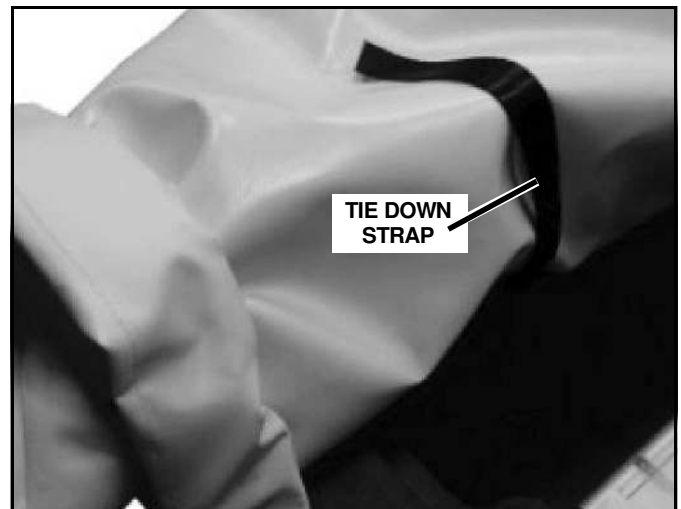
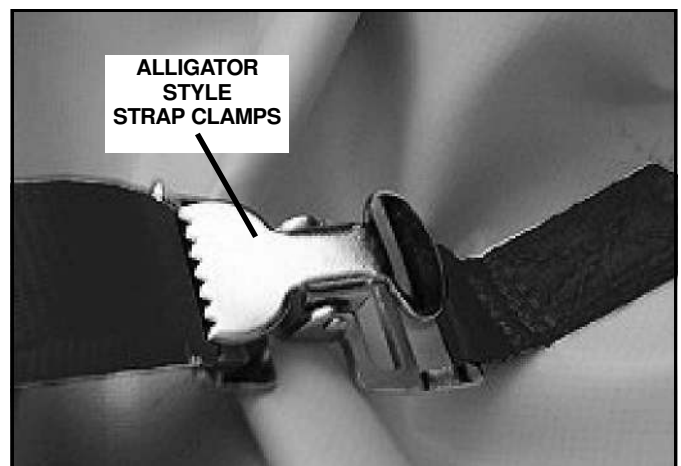

Figure 9
Figure 10
3. With the tarp completely rolled, secure by inserting the bottom tie down straps (See Figure 9) into the alligator style strap clamps. (See Figure 10).